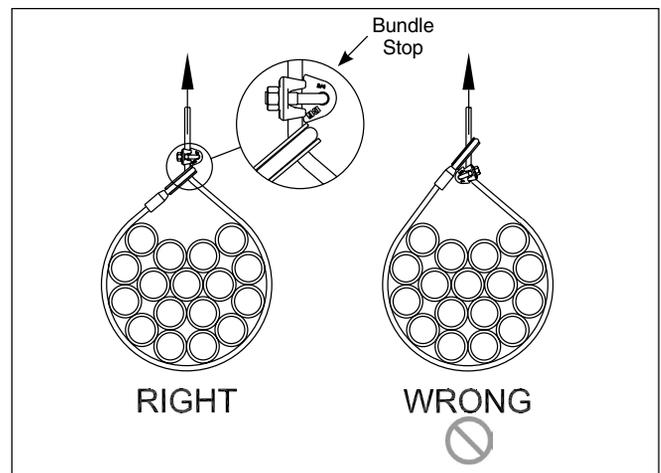

Figure 3
Certain conditions (such as extreme variation of the choke size) or improper installation may cause the eye of the choke to disengage from the Bundle Clip and allow the eye to seat away from or below the Bundle Clip (see Figure 3). If this occurs, the Bundle Clip must be removed and installed in the proper position.
3. After initial loading, install the Bundle Clip. The orientation of the Bundle Clip on the live line is not an important consideration, as the assembly is of adequate size to prevent passage through proper size Crosby Thimble and next larger size Thimble. Insert U-bolt through the Bundle Clip. Properly position the clip base over the U-bolt and install nuts (See Figure 3). Use torque wrench to tighten evenly, alternating from one nut to the other until the bundle stop bottoms out on the clip base, and the recommended torque is reached (See Table 1).